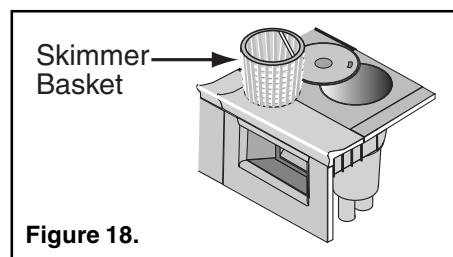

Figure 18.
4. Remove the skimmer basket from the skimmer, (see Figure 18).